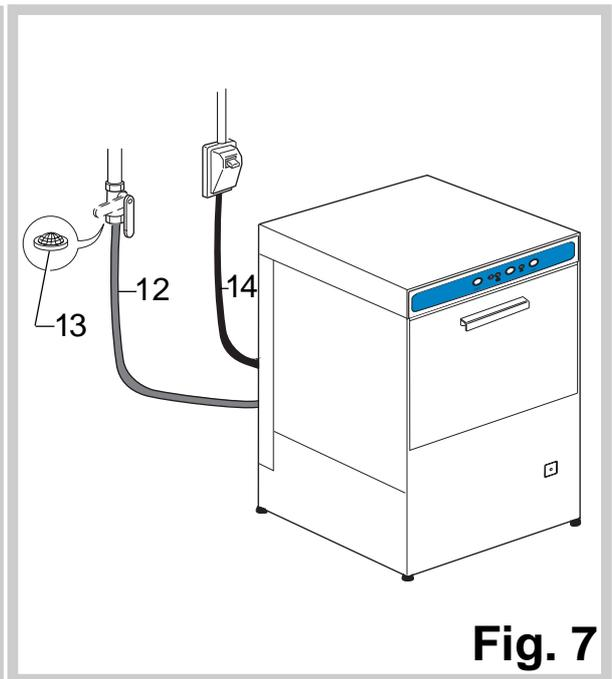

Fig. 7
- Screw the end of the fill pipe (12) to a 3/4"G threaded cock, fitting the filter (13 Fig. 7) in between.